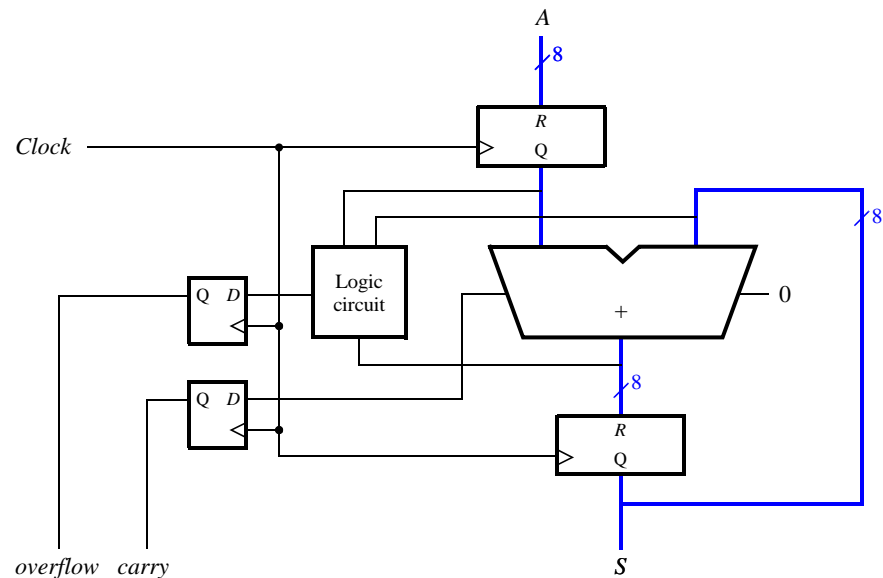

Figure 2: An eight-bit accumulator circuit.
Use this construct to implement a circuit shown in Figure 2. This circuit, which is often called an *accumulator*, is used to add the value of an input  $A$  to itself repeatedly. The circuit includes a carry out from the adder, as well as an *overflow* output signal. If the input  $A$  is considered as a 2's-complement number, then *overflow* should be set to 1 in the case where the output  $sum$  produced does not represent a correct 2's-complement result.
1. Create a new Quartus® project. Write VHDL code that describes the circuit in Figure 2.